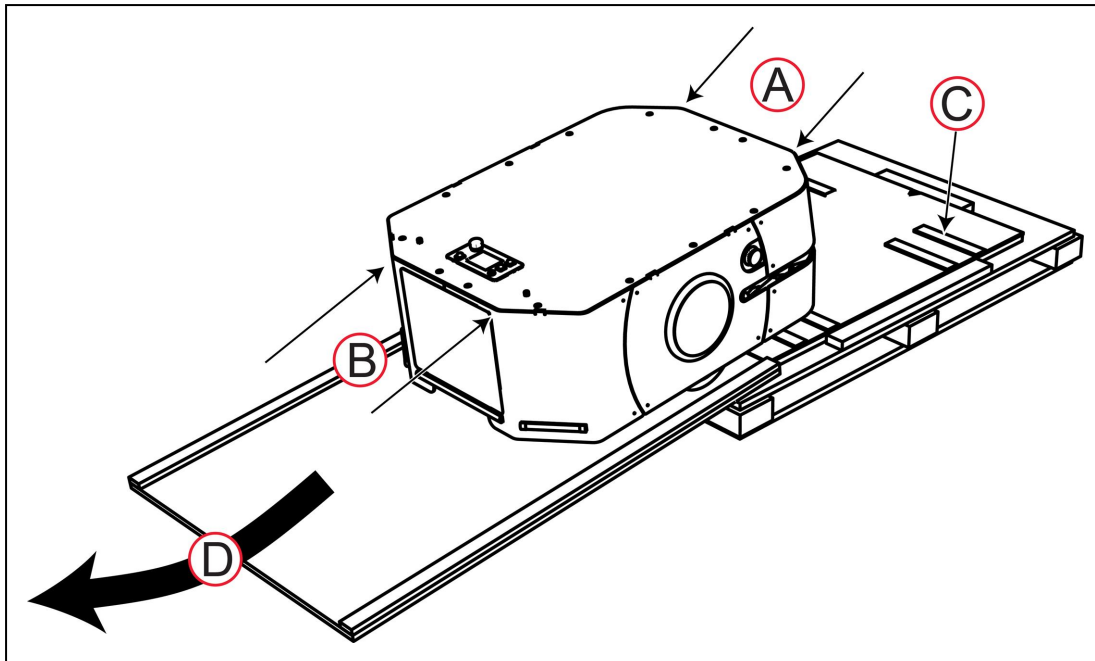

Figure 3-5 Move the LD-250 Down the Ramp
1. Referring to Figure 3-5, identify the safe push points (A) and (B) at the top edge of the skins. Do not push lower down on the chassis because it might damage the skins or other components.
3. Pushing from the top edge of the chassis using the push points (A) and steadying the LD-250 at push points (B), carefully roll the LD-250 over the caster chocks and down the ramp.